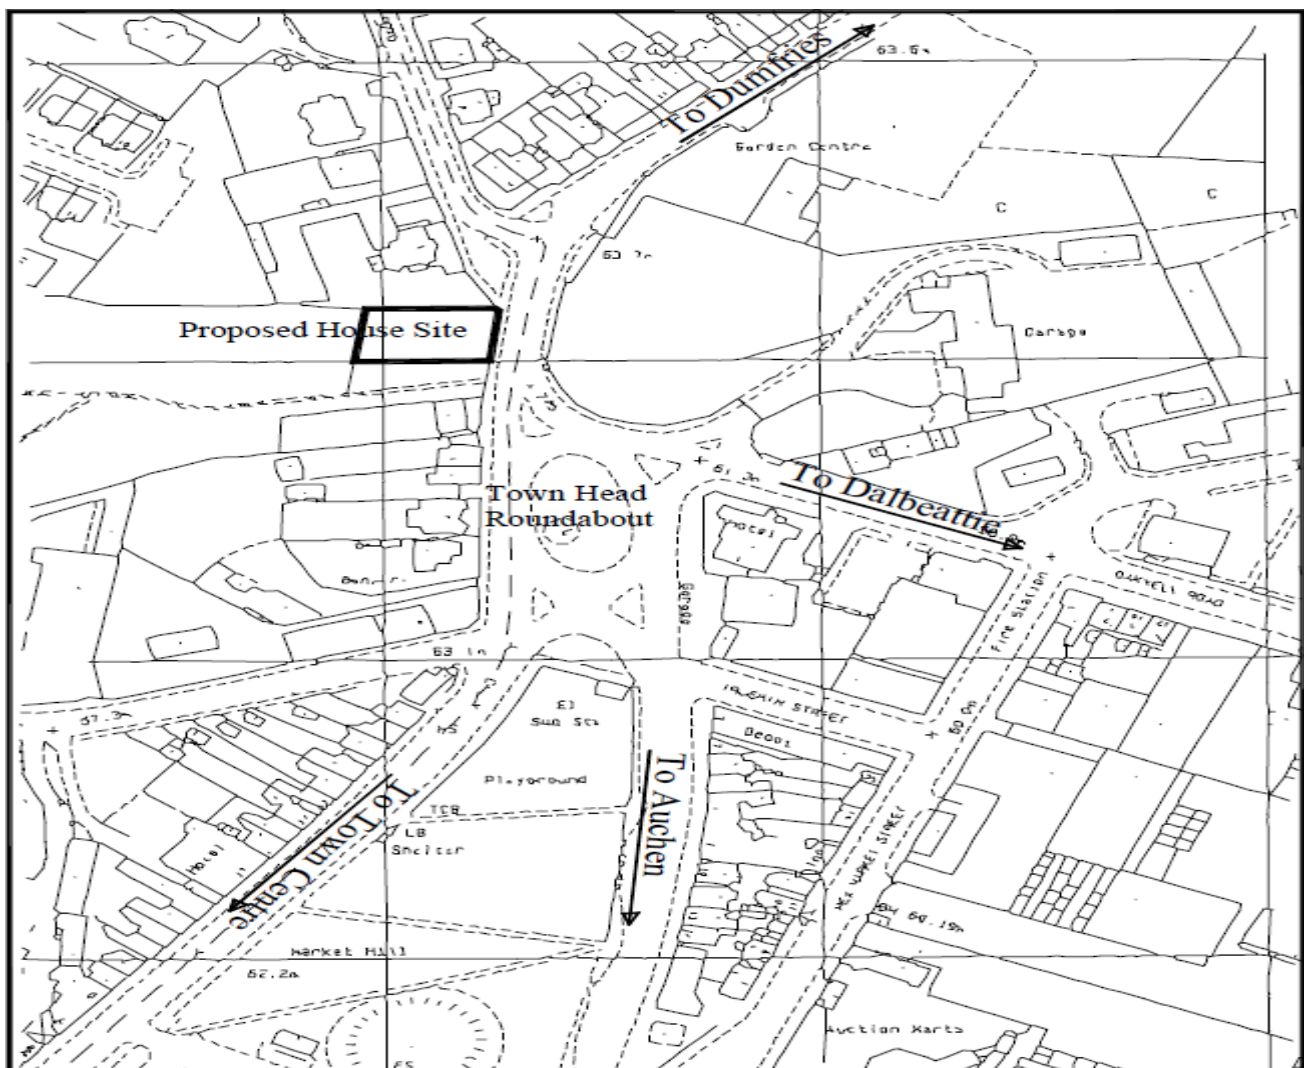

Figure 1.5 Survey plan
1.2.4 Survey Plan - Usually produced by a surveyor (See Figure 1.5)